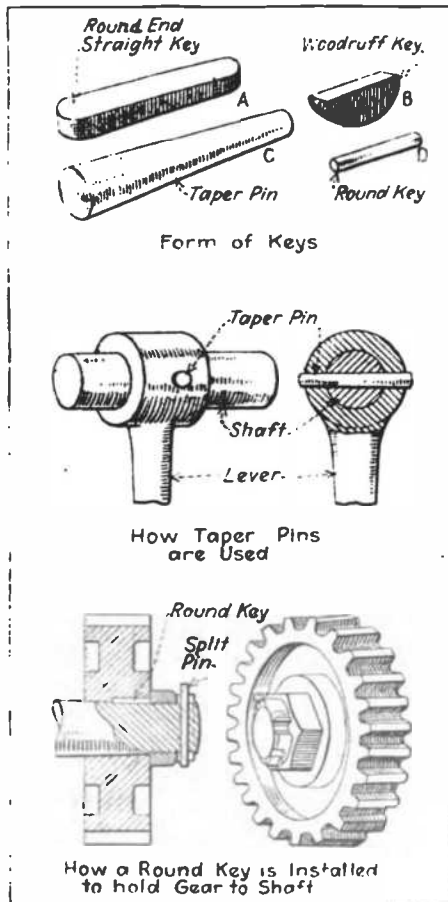
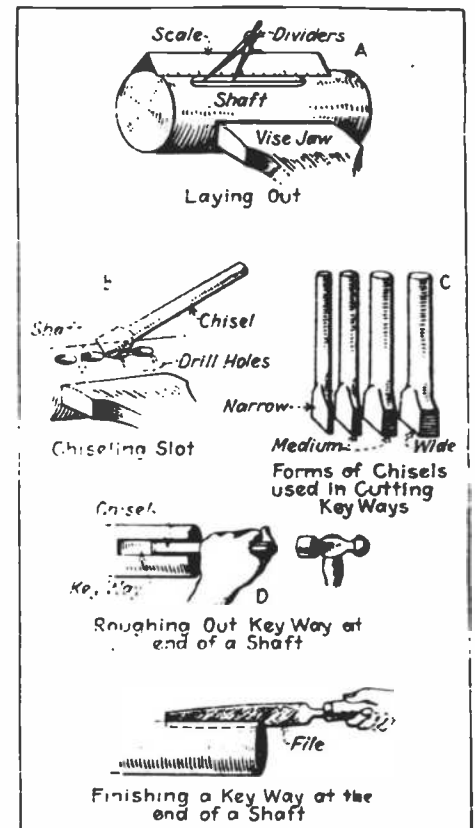

Fig. 1—Common forms of keys used in mechanical work
Fig. 2—How to lay out and cut a keyway without machinery
**I**N all machinery, and especially in automobiles and other automotive apparatus, numerous parts which must be removed from the pieces to which they are fastened and by which they are actuated when the mechanism is dismantled are held by a method of fastening called "keying." Various forms of keys are shown at Fig. 1, that at A being a form made from ordinary key stock which may have either rounded ends or square ends depending upon whether the key is to be set into a keyway machined into the center of the shaft or at one end. If the keyway comes
The method of laying out a keyway when the rounded end key shown at Fig. 1 A, is to be placed in a shaft is shown at Fig. 2 A. The outline of the key is scribed on the shaft, care being taken to have the curved end a half circle whose radius is equal to half the width of the key. For example, if the key is supposed to be one-quarter inch wide and two inches long the first operation will be to describe a straight line along the shaft and to indicate thereon the useful length of the key, which is that of the straight portion, by center punch marks on the line. The dividers are then set to one-eighth inch radius and circles are drawn using the punch marks as centers. The sides of
the circles are then joined by lines parallel to the center line. The next operation is to drill a series of holes into the shaft with a 7/32" drill as shown at Fig. 2 B. These are cut out by means of chisels such as shown at Fig. 2 C. The operation is started with a narrow chisel, followed through with the medium width chisels and finished off with the wide one which is accurately ground to the correct width of the keyways. A piece of quarter inch keystock is then obtained cut to the proper length and the ends rounded off with a file or on an emery wheel, to conform to the shape of the key-
way. The method outlined is, of course, used only in a small shop where regular keyway cutting machinery is not available, as would be the case in an experimental or auto repair shop where milling machines or shapers are not included in the tool equipment. The method of making a keyway in the end of the shaft is similar to that for making one in the middle of the shaft except that it is much easier to chisel out the keyway with a cape chisel and finish it with a file as shown at Fig. 2 D.